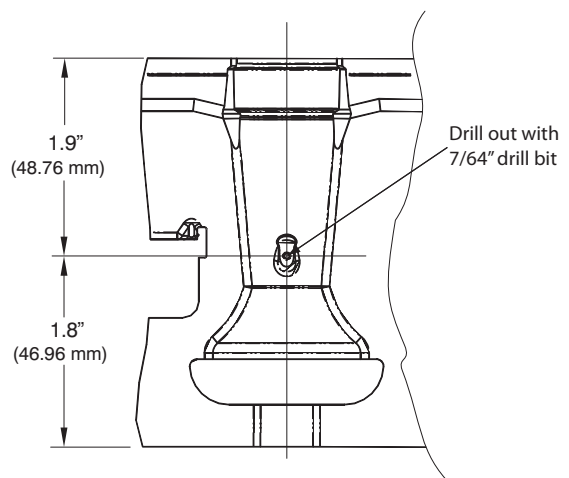

Fig. 26 - Mixer Screw Location
1. Locate the dimple on the bottom of each burner venturi tube. If you cannot locate the dimple, refer to Fig. 26 for location of the mixer screw.